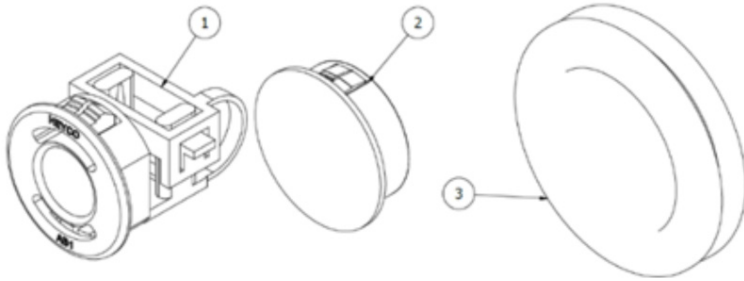

Figure 10 - Flextherm Eco G2 D Heat Battery Grommets & Strain Reliefs
- Remove the respective rubber grommets (Item 3 – Figure 10) in the outer housing and cut the centres (with a cross) with a knife. Re-insert the cut grommets. Do not cut the grommets in place, as this may damage the VIP.
- (Refer to Figure 10) Move the cable strain relief fittings (1) to the side you wish to make the entries / exits. Cover all other holes in the enclosure with the supplied blanking grommets (2).